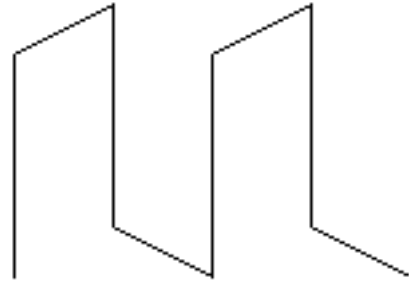

Figure 5-2 Over (decrease level)
6. Adjust the Reference Deviation digital potentiometer until the top of the waveform is flat. If the waveform top droops increase the level (see Figure 5-21) and if it peaks reduce the level (see Figure 5-2).